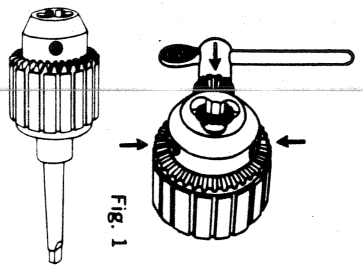
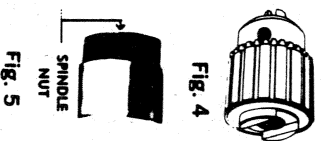

Fig. 2
Fig. 4
- 4) Geared chucks on Morse Taper Arbors (Fig. 2) are sometimes used on  $\frac{1}{2}$ " or larger drills. Care must be taken when withdrawing from a drilled hole so that the arbor does not suddenly slip out of the socket in the drill and throw the operator off balance. The use of a Reversing Switch on a drill will prevent this by easing the drill bit from the hole.
- 2) Since special tools and techniques are required in the removal and attachment of geared chucks on Morse Taper Arbors (See Fig. 2), and of geared chucks known as "Key Drive Chucks" (See Fig. 4), it is recommended that this work be done by your B & D Service Branch.